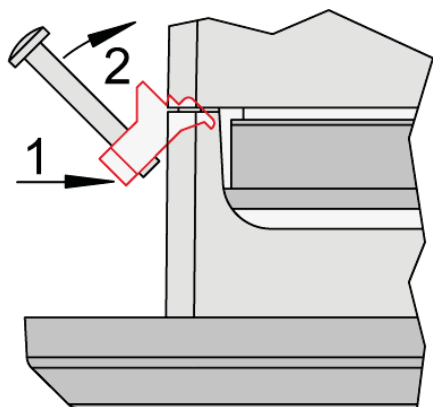

Fig. 15: Attach clamp inserts
5. → Re-install the clamp inserts by tilting the insert to a 45° angle. (Fig. 15/1) Insert the nose of the insert into the slot on the side of the housing. (Fig. 15/2) Raise the clamp insert so that it is parallel to the control panel.